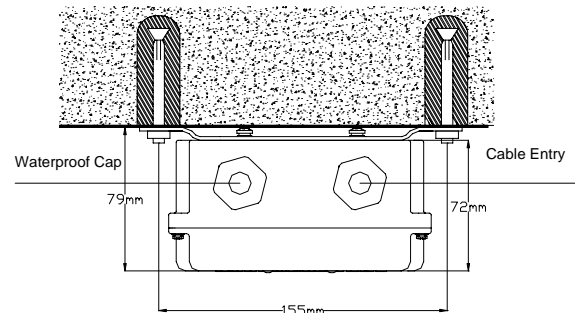

Fig. 2
a) Wall mounted: Fix the mounting bracket to the wall using two M6x60 expansion bolts, its mounting dimension is shown in Fig. 2.